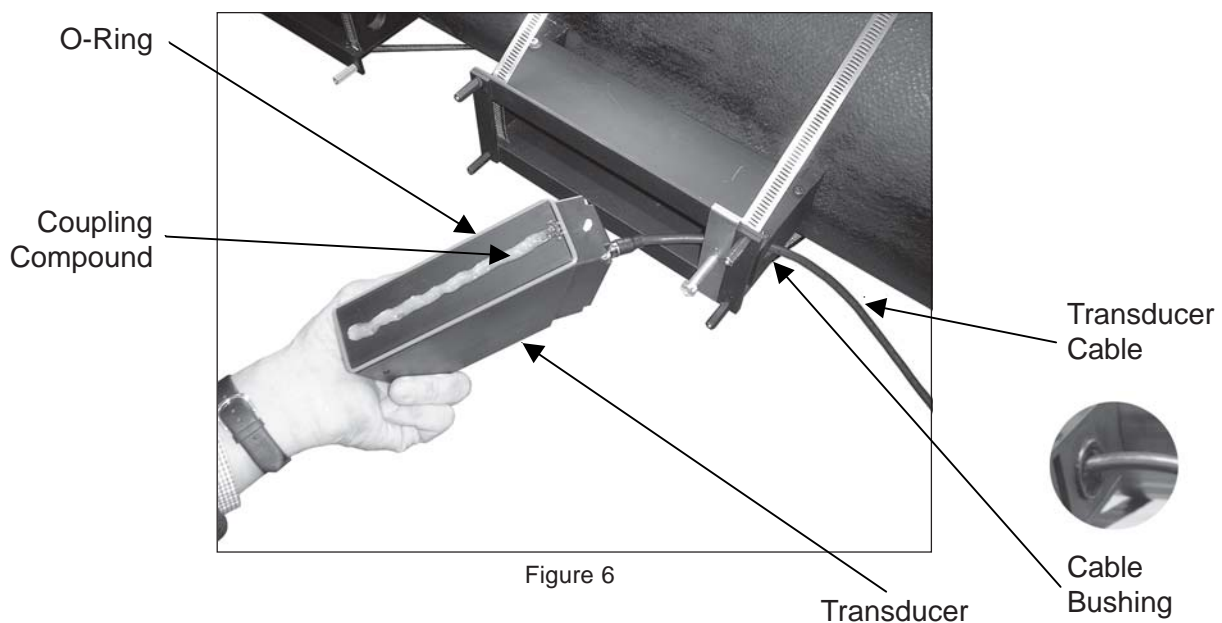

Figure 6
- Feed cable through cable bushing access hole, connect to transducer and press cable bushing into hole (Figure 6).
- Place the supplied O-Ring gasket around the recess in the transducer's footprint (Figure 6). Apply a 1/4" bead of couplant to emitting surface of transducer.